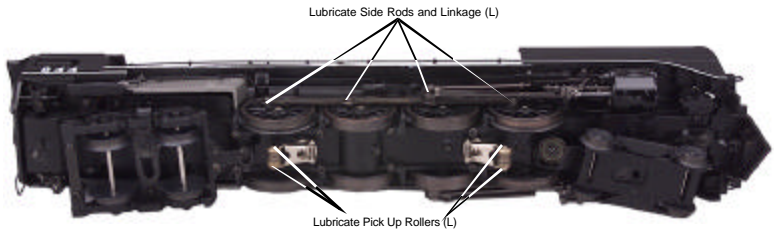

Figure 6. Lubrication Points on the Locomotive
1. Although the engine was lubricated at the factory, you should lubricate all side rods and linkage components and pickup rollers to prevent them from squeaking. Use light household oil and follow the lubrication points marked “L” in Fig. 6 on pg. 12. Do not over-oil. Use only a drop or two on each pivot point
You should regularly lubricate all side rods and linkage components and pickup rollers to prevent them from squeaking. Use light household oil and follow the lubrication points marked “L” in Fig. 6. Do not over-oil. Use only a drop or two on each pivot point.